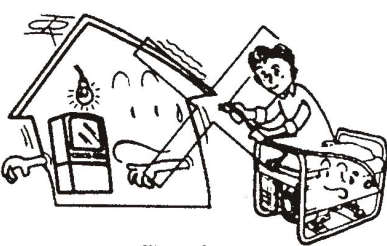

Figure 3
a. Don't connect the unit to building circuit (Figure 3)